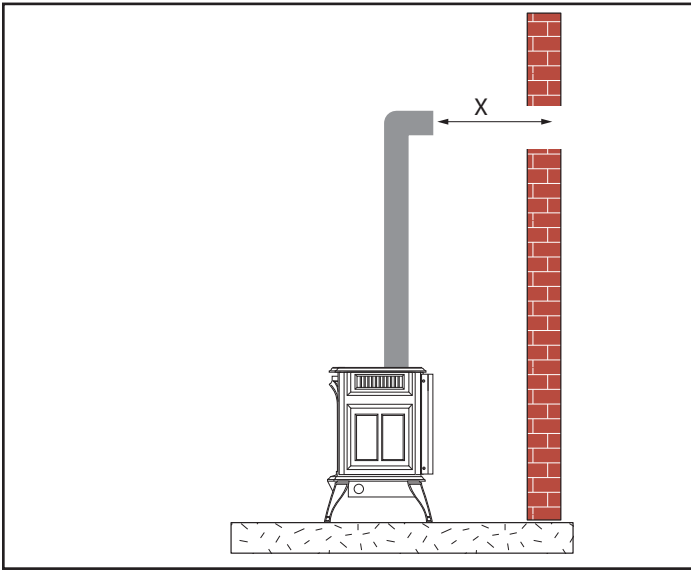

Figure 3.13 - Horizontal Length Requirement
5. Measure the horizontal length requirement including a 2" (51 mm) overlap, i.e. from the elbow to the outside wall face plus 2" (51 mm) (or the distance required if installing a second 90° elbow), Figure 3.13.